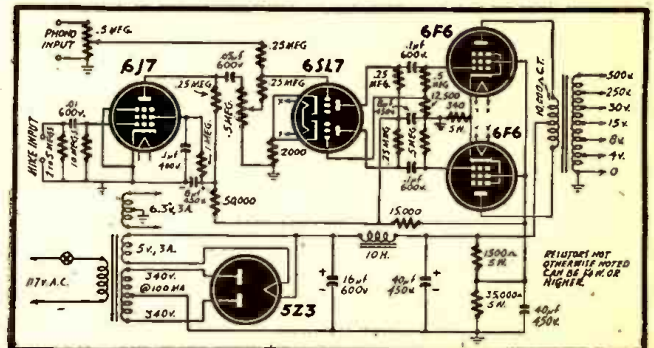

Fig. 4—Public address set for phonograph or microphone.
A. The diagram (Fig. 4) is designed to meet your needs, using your transformer. All resistors, chokes, and condensers are specified. The input to the grid will probably need shielding. To place all parts on a small chassis will require more care in shielding, and placement.